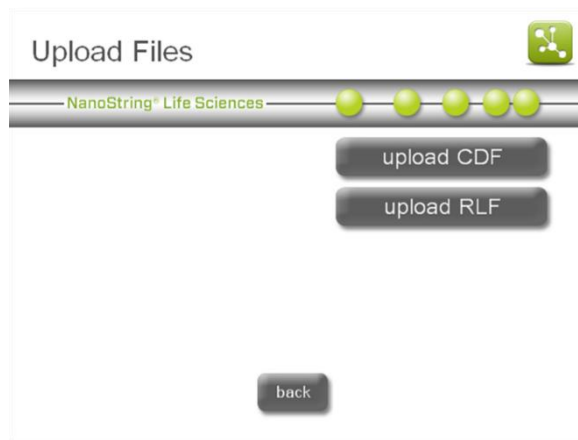

Figure 51: The 'Upload Files' screen
3. The 'Upload Files' screen will appear (**Figure 51**). Select **upload RLF**.